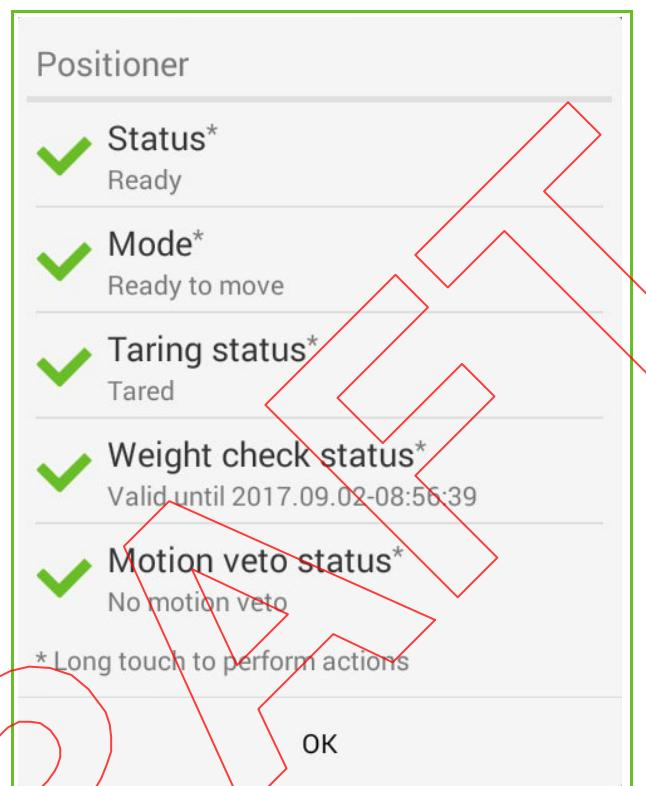

Figure 13-7. Positioner Menu
9. Long touch **Mode. Ready to Move** appears (Figure 13-7).